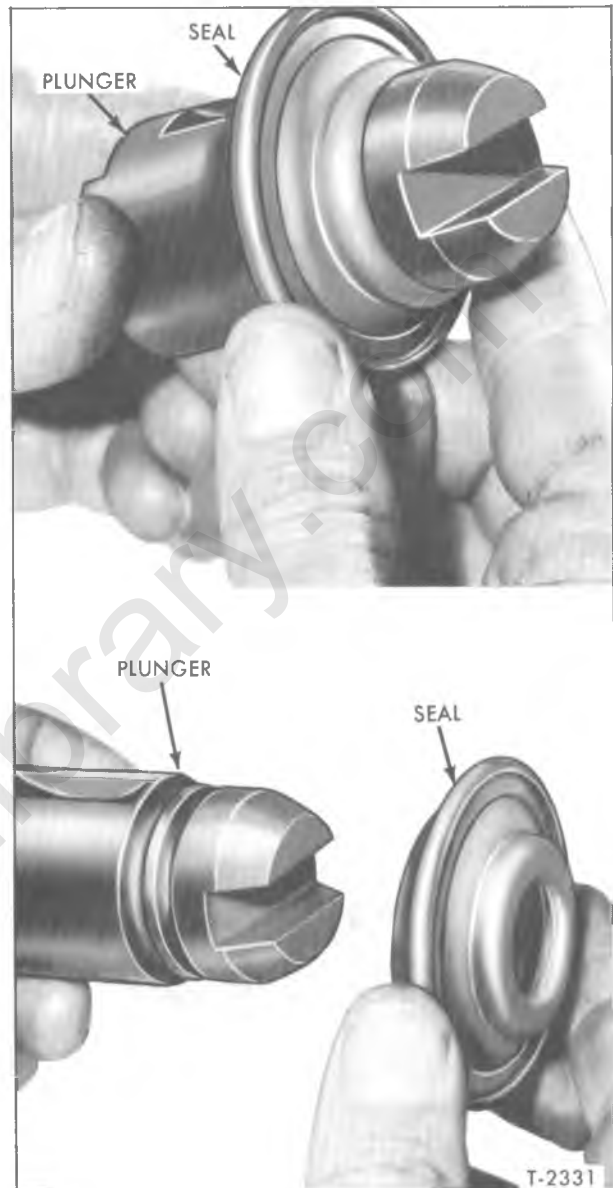

Figure 35—Installing Seal on Anchor Plunger
1. Install new seals on anchor plungers as shown in figure 35.